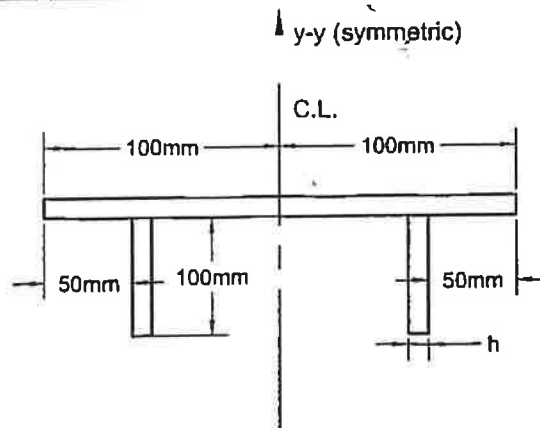

FIGURE A2
- A2. A simplified fuselage cross-section is shown in Figure A2. The cross-section is 2 m long and it is simply supported. It is loaded uniformly with 2.0 kPa, and assumed to be designed in one-way bending. Determine the thickness "h" of the section required. Use $F_y = 350$ Mpa